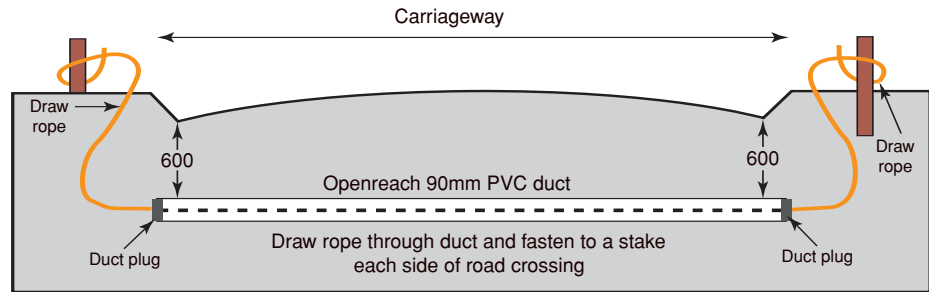

Fig 1
- Where Openreach duct crosses the carriageway, adjoining kerbs are to be marked temporarily denoting location of duct positions (see Fig 1).
- A drawrope is necessary. It is to be inserted through the duct and secured to the marker posts at both ends of the crossing to facilitate future cabling operations. The appropriate duct plug should be fitted to either end of duct (See Fig 1). Plug Duct 4B Socket End or Plug Duct 4C Spigot End must be inserted to prevent ingress of foreign matter.